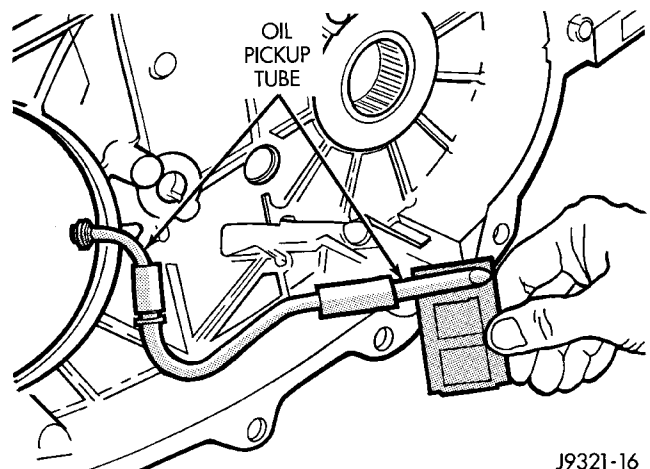

Fig. 27 Oil Pickup Tube Removal
- (5) Remove oil pickup tube from rear case (Fig. 27).